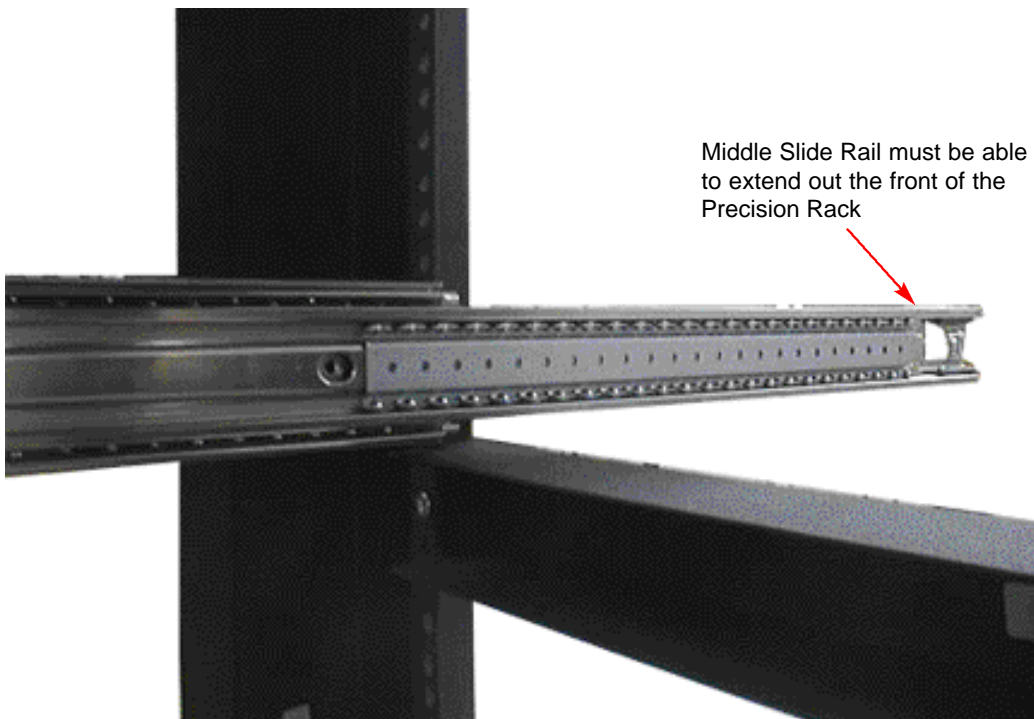

Figure 9 - Rail placement in the Precision Rack
- a. Remove one slide rail from the package. Placement of the slide rail will be so the middle slide can extend out the front of the Precision Rack, and the back of the outer slide is against the extender bracket. See Figure 9.